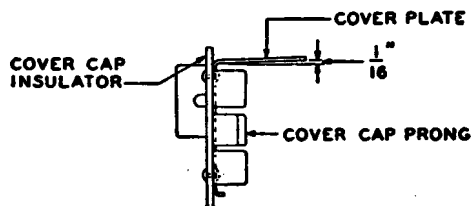

Fig. 101 - Cover Cap - 239 Type Relay
- 1.02 Cover Cap:** The outer end of 239 type relay cover plate shall be approximately  $1/16''$  above a line as shown in Fig. 101.